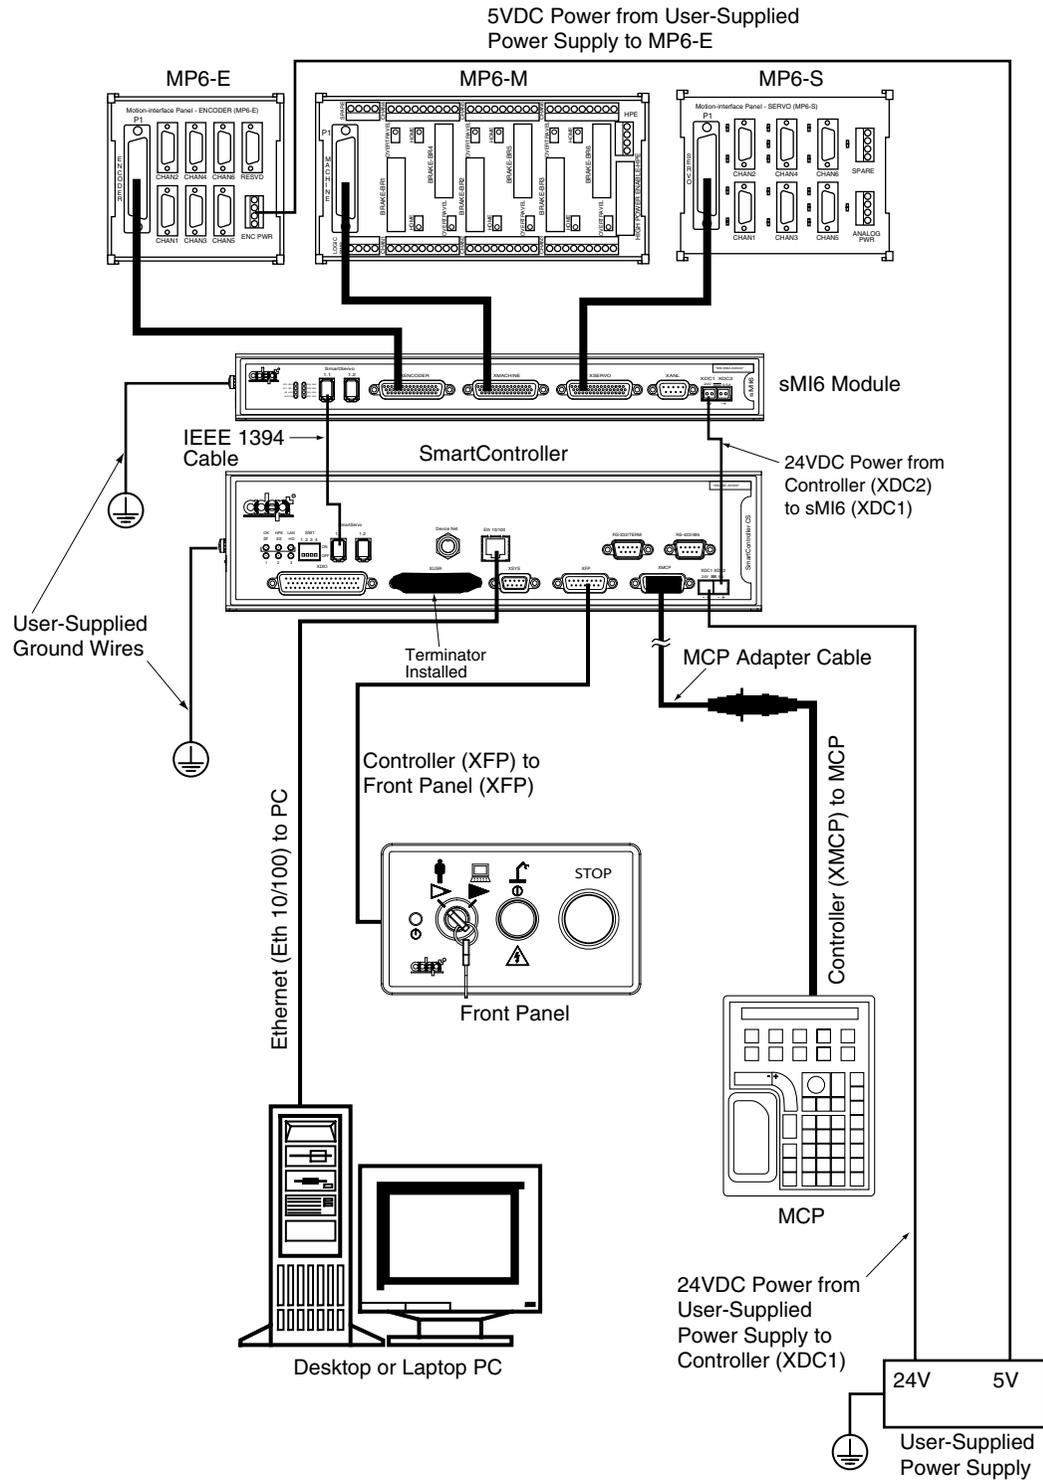

Figure 2-3. Adept SmartMotion System Cable Diagram
**NOTE:** Refer to the system cable diagram in Figure 2-3 on page 20 for the remaining steps in this process.
Refer to the System Cable Diagram in Figure 2-3 on page 20 and to the *Adept SmartController User's Guide* to install the SmartController and related peripherals. A brief summary is presented here.
Refer to the System Cable Diagram in Figure 2-3 on page 20.